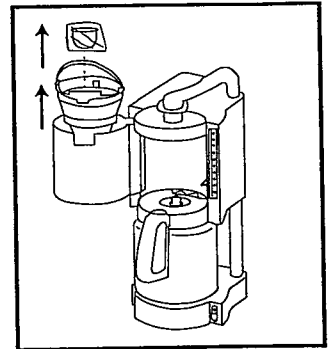

Figure 1
1. Carefully unpack the 10-Cup Thermal Coffeemaker. Open the Swing Out Filter Basket and remove the Charcoal Filter (see Figure 1). Pull out Removable Liner from Filter Basket. Close Filter Basket. Set the Charcoal Filter and Removable Liner aside on a dry surface.